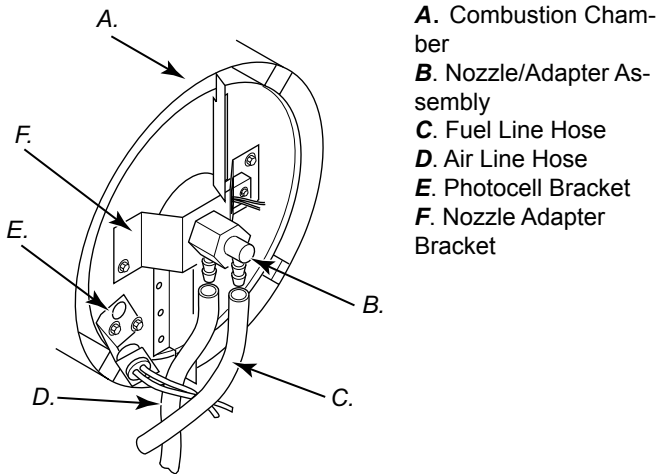
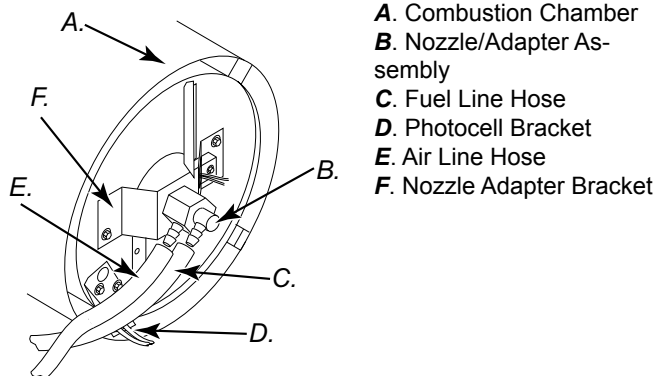
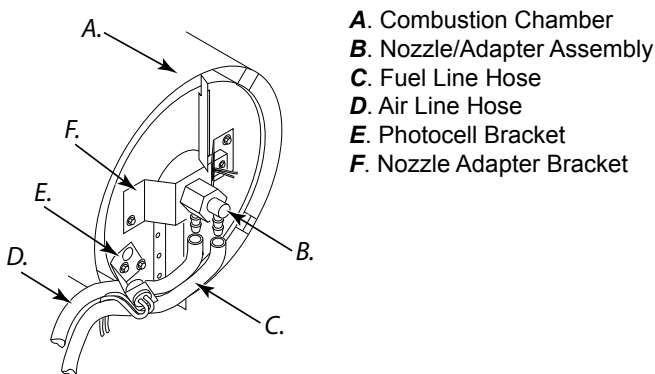
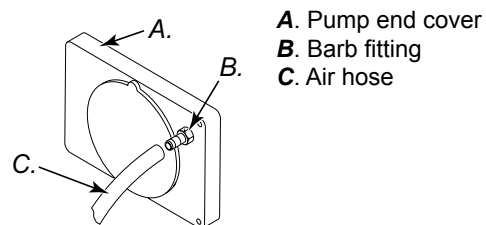

Figure 17 – Removing air and fuel line hoses, 35.000, 64.000 and 70.000 Btu/Hr Models.
Figure 18 – Removing air and fuel line hoses, (100.000 Btu/Hr).
Figure 19 – Removing air and fuel line hoses (150.000 Btu/Hr).
Figure 22 – Air hose to barb fitting
14. Replace photocell in photocell bracket. Route wires as shown in either Figure 17, 18, or 19, page 11.
3. Remove fuel and air line hoses from nozzle assembly (see Figure 17, 18 or 19).
4. Inspect fuel and air line hoses for cracks and/or holes. If fuel line hose is damaged, disconnect from nozzle adapter (see Figure 17, 18, or 19) and from fuel filter (see page 6). If air line hose is damaged, disconnect from nozzle adapter (see Figure 17, 18, or 19) and from barb fitting on pump end cover (see Figure 22).
5. Install new air and/or fuel line. Attach one end of air line hose to barb fitting on pump end cover (see Figure 22) and the other end to nozzle adapter (see Figure 17, 18, or 19). Attach one end of fuel line hose to fuel filter (see page 6) and the other end to nozzle adapter (see Figure 17, 18, or 19). For 35.000, 64.000 and 70.000 Btu/Hr model heaters, route air and fuel lines approximately as shown in Figure 17. Note: Hoses are not to be touching photocell bracket. For 100.000 Btu/Hr model heater, route air and fuel lines approximately as shown in Figure 18. Note: Hoses are not to be touching photocell bracket. For 150.000 Btu/Hr model heater, route air and fuel lines approximately as shown in Figure 19. Note: Hoses are not to be touching photocell bracket.